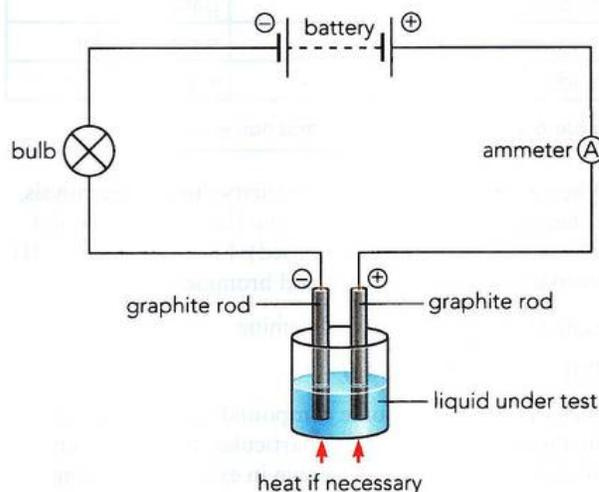

Figure 6.4: Apparatus for testing the conductivity of liquids (an electrolytic cell).
The conductivity of liquids can be tested in a similar way to solids, but the simple testing circuit is changed (Figure 6.4). Instead of clipping the solid material to be tested into the circuit, graphite rods are dipped into the test liquid. Liquid compounds, solutions and molten materials can all be tested in this way. Molten metals, and mercury, which is liquid at room temperature, conduct electricity. Electrons are still able to move through the liquid metal to carry the charge. As in solid metals, no chemical change takes place when liquid metals conduct electricity.
If liquid compounds or solutions are tested using the apparatus in Figure 6.4, then the result will depend on the type of bonding in the compound (Chapter 3). If the compound is bonded covalently, then the compound will *not* conduct electricity as a liquid or as a solution. Examples of such liquids are ethanol, **petrol (gasoline)**, pure water and sugar solution. Ionic compounds *will* conduct electricity if they are either molten or dissolved in water. Examples of these ionic compounds are molten lead bromide, sodium chloride solution and copper(II) sulfate solution.
The apparatus in which electrolysis is carried out is known as an **electrolytic cell** (Figure 6.4). The direct current is supplied by a battery or power pack. Graphite electrodes carry the current into and out of the electrolyte. Graphite is chosen because it is quite unreactive (inert). It will not react with the electrolyte or with the products of electrolysis. Platinum electrodes are sometimes used in some cells instead of graphite. In the external circuit, electrons flow from the negative terminal of the battery to the cathode, and then from the anode back to the positive terminal. In the electrolyte it is the ions that move to carry the current.